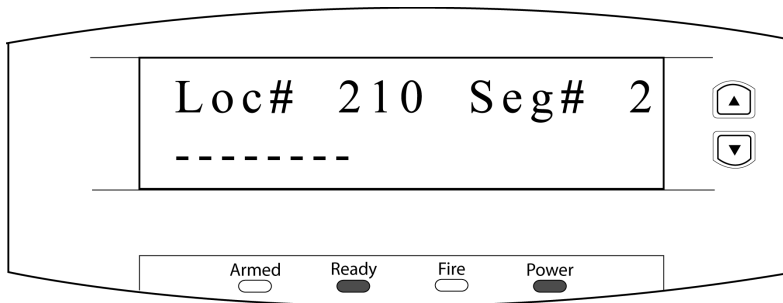

Figure 10: Alarm Panel - Location 210, Segment 2
2. Select the **\*** key to save the selection and move to the next segment. For Location 210, Segment 2, all numbered options must be toggled to the OFF position. Once completed, the LCD will look similar to Figure 10.